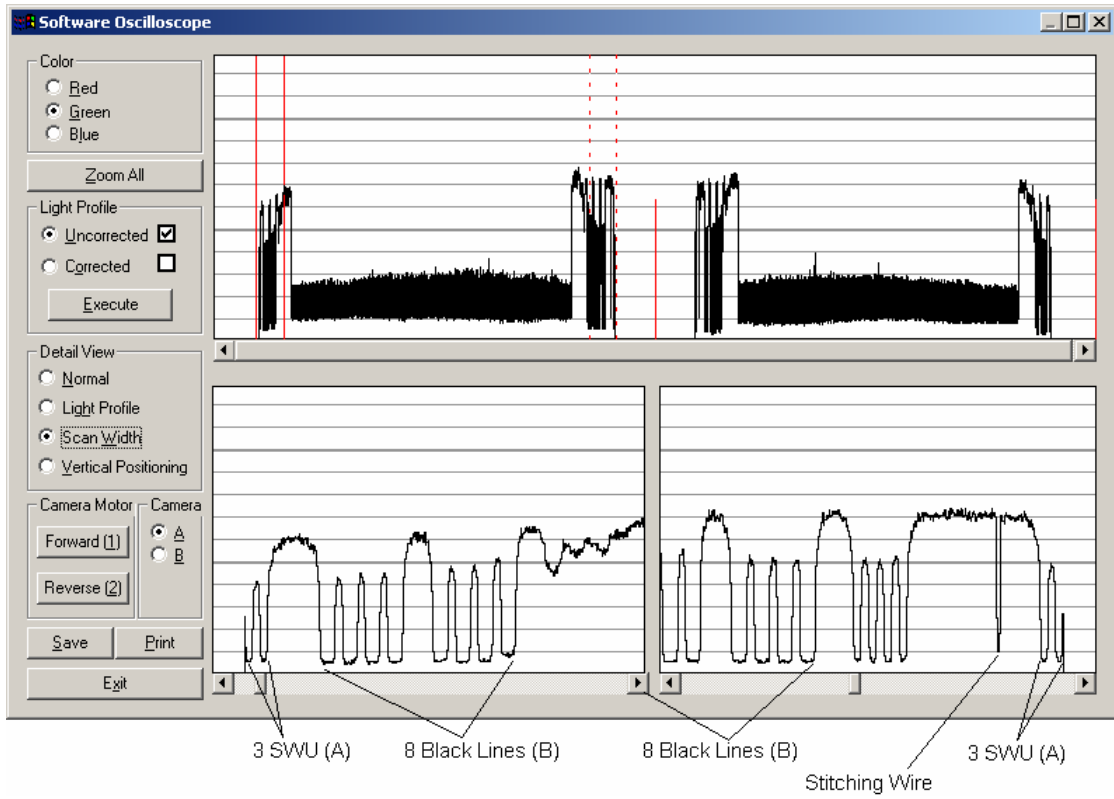

Fig. 4-21 COUGAR 36, CHAMELEON 36, PREMIER 36, Scan-Width, Camera A
- Fig. 4-21 COUGAR 36, CHAMELEON 36, PREMIER 36, Scan-Width (A), page 103